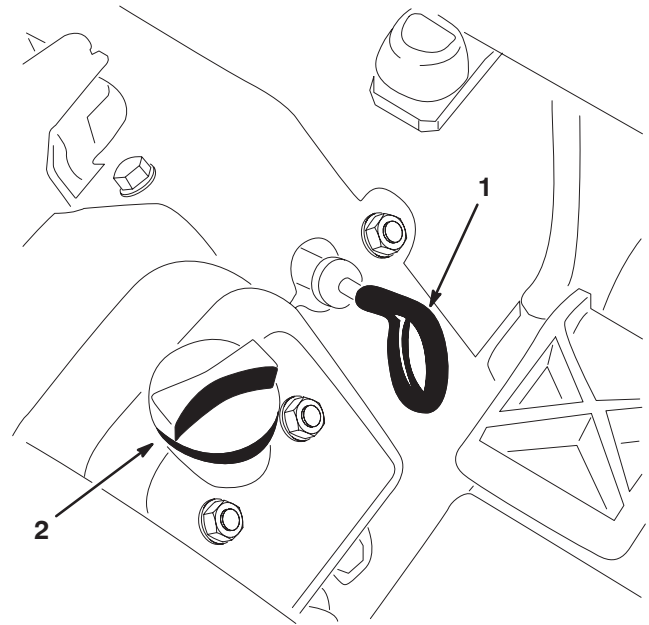

Figure 4
3. Pull out the dipstick (Fig. 4) and wipe it with a clean rag. Insert the dipstick into the tube and make sure that it is seated fully. Remove the dipstick from the tube and check the oil level. If the oil level is low, remove the filler cap from the valve cover and add enough oil to raise the level to the FULL mark on the dipstick.